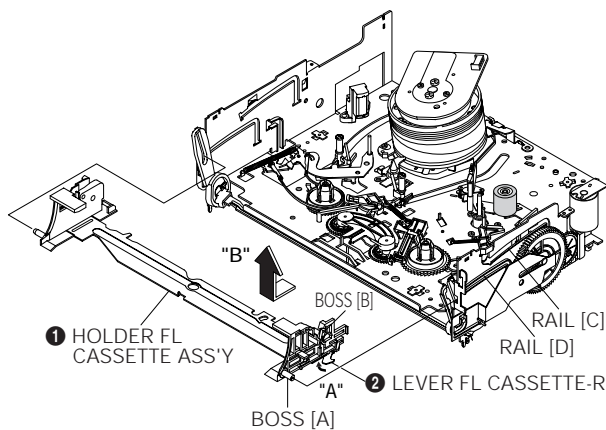

Fig. 4-6 Holder FL Cassette Ass'y Removal
2. Remove the Holder FL Cassette Ass'y. (Refer to Fig.4-6)
3. Release the Hook ❶ in the direction of arrow "A", pull out the Lever FL Arm Ass'y ❷ from the Boss of Main Base.
4. Remove the Lever FL Arm Ass'y ❷ in the direction of arrow "B".
**Assembly :** When reinstalling, be sure to reassemble Lever FL Arm Ass'y ❷ after you insert the Boss ❷ in Groove [A] of Slider FL Drive ❸.